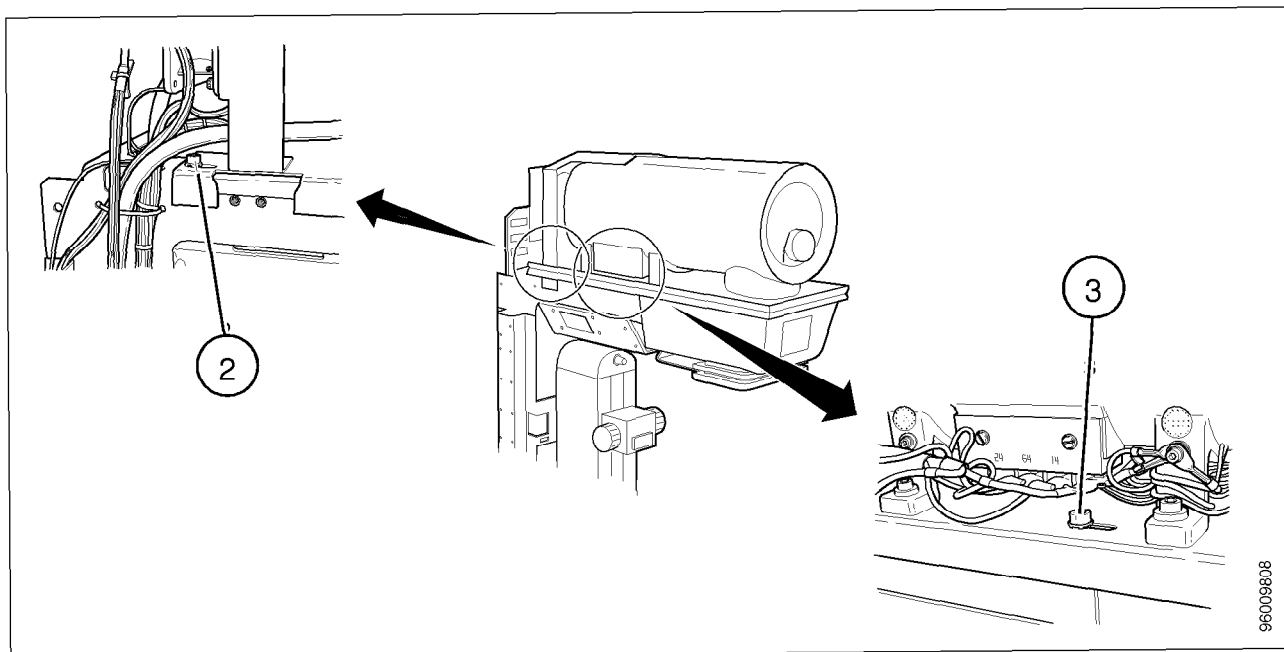

Fig. 4
- Loosen the screws (2,3/Fig. 4) on both sides of the collimator.